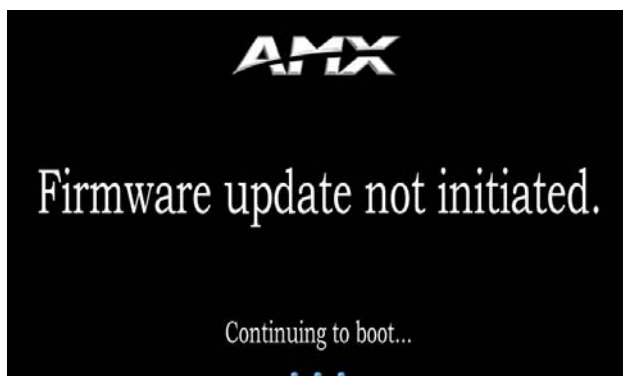

FIG. 99 “Firmware update not initiated” notice screen
5. If you do not touch the screen to initiate a firmware update within 5 seconds, the panel will continue to reboot (FIG. 99).